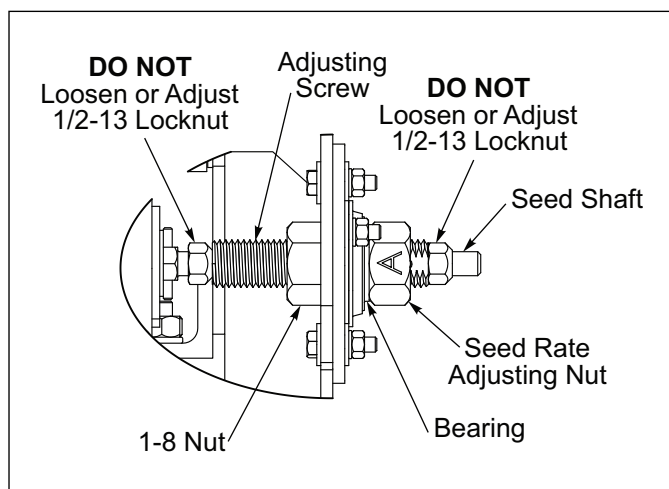

Figure 4-6: Front Seed Box Rate Adjuster
All Seed Meters must be set the same to ensure seeding uniformity. To check, set the Seed Rate Adjusting Nut to 0-A. The "A" on the Seed Rate Adjusting Nut is positioned over the "0" (the nut covers half of the "0") and snug against the Bearing. See Figures 4-6 and 4-7.
1. 1/2-13 Locknuts on both ends of the Adjusting Screw are used to adjust all Seed Meters the same amount. See Figures 4-6 and 4-7. To adjust Seed Meters to be closed at "0A", loosen 1/2-13 Locknuts and set Adjusting Screw to "0A". Slide Seed Shaft to close all Seed Meters. Tighten 1/2-13 Locknuts against Adjusting Screw.